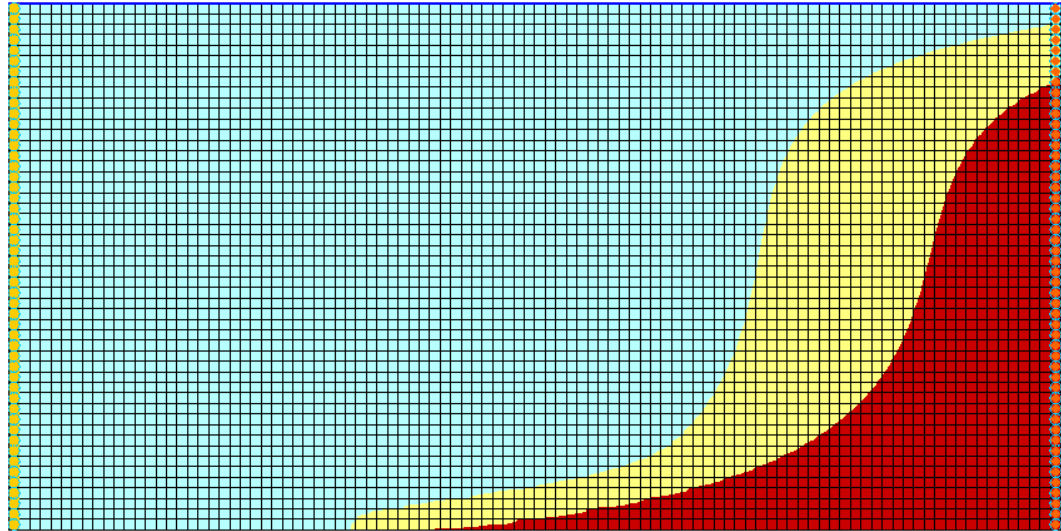

Figure 6 Salt concentration at time step 16 in case2
2. View the same dataset and time step in “ case2 (MT3DMS)” (Figure 6).